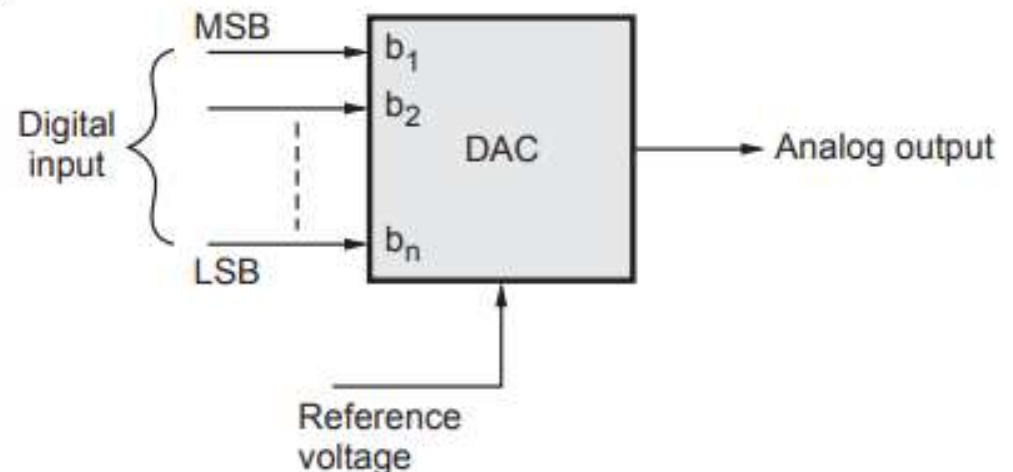

Fig. 3.8.1 Block schematic of DAC
- Fig. 3.8.1 shows inputs and outputs of DAC.